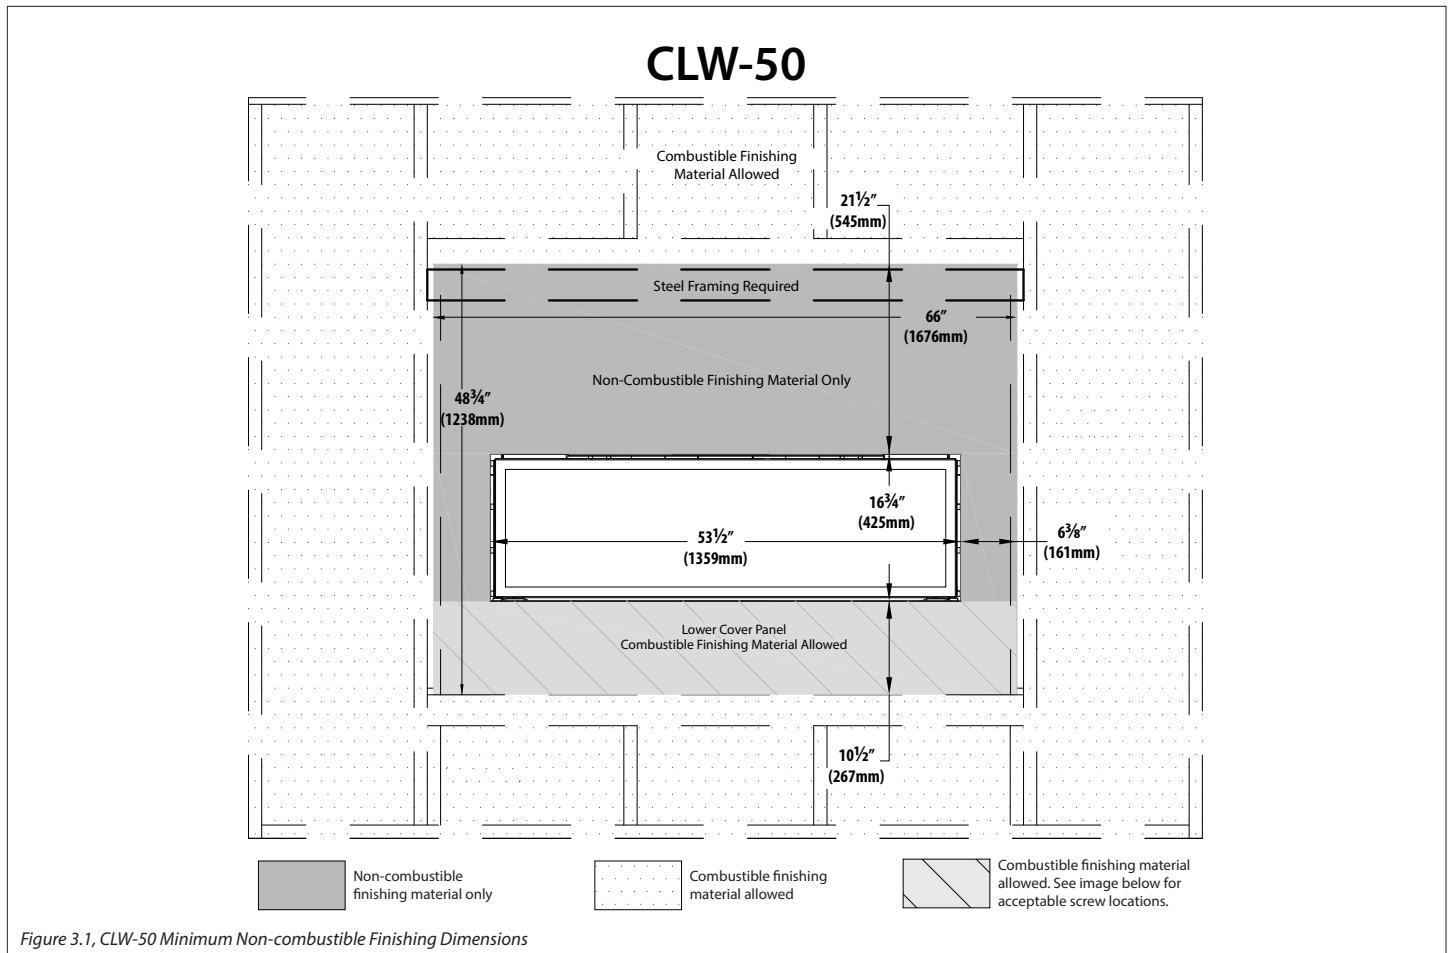
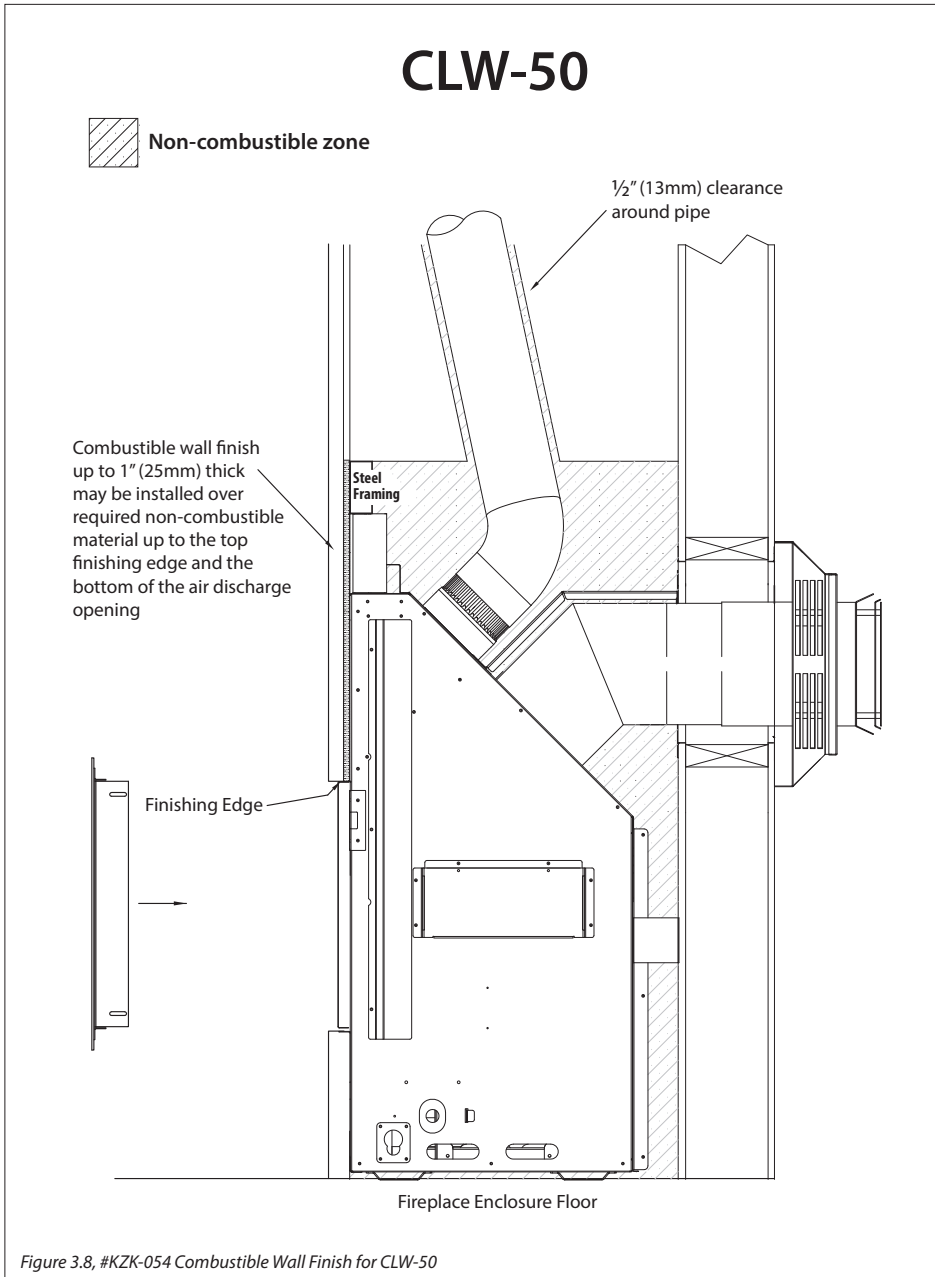

Figure 3.1, CLW-50 Minimum Non-combustible Finishing Dimensions
Figure 3.8, #KZK-054 Combustible Wall Finish for CLW-50
- Figure 3.8 shows installation of combustible wall finish up to 1" thick. This combustible material goes over any required non-combustible materials as shown in Figure 3.1 on page 14.